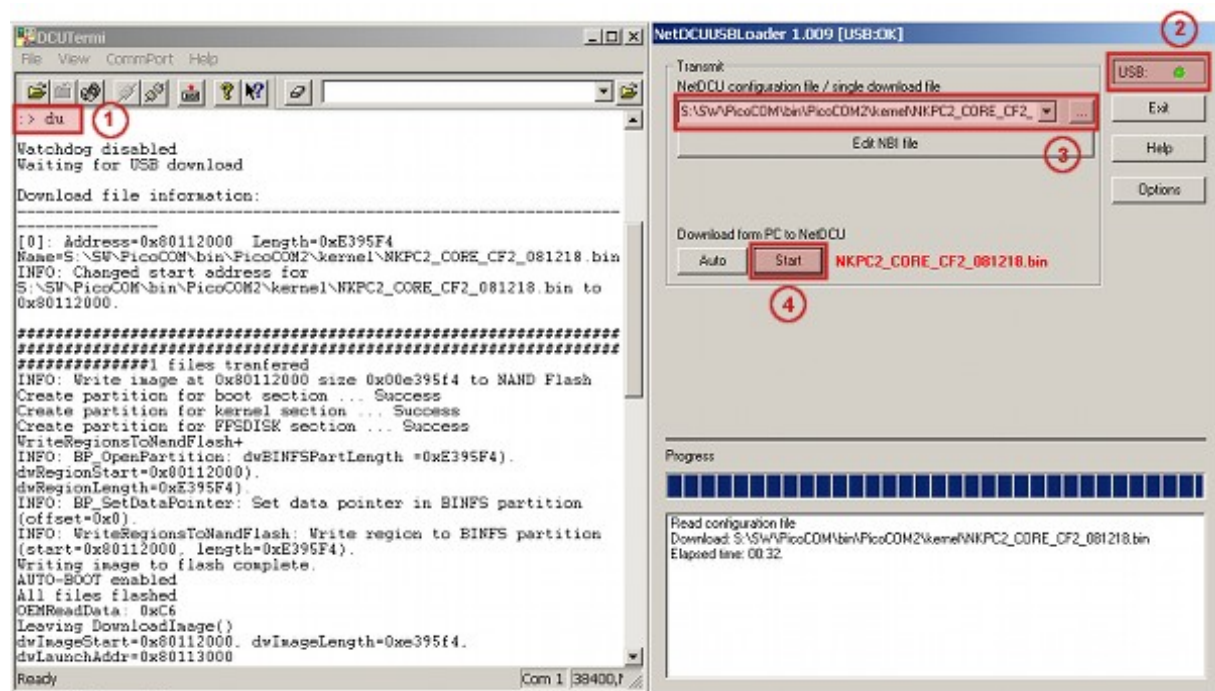

Figure 11: Using the NetDCU-USBLoader utility.
To download the WindowsCE Kernel via USB, start the NetDCU-USBLoader utility on your desktop PC and use the command `DU` to enter the USB download mode (1). As soon as the connection is established, the button in the top right corner of NetDCU-USBLoader turns from red to green (2). Select the respective `<NK-kernel-image>.bin` file (3) and click the 'Start' button (4). You should now see progress similar to figure 11.